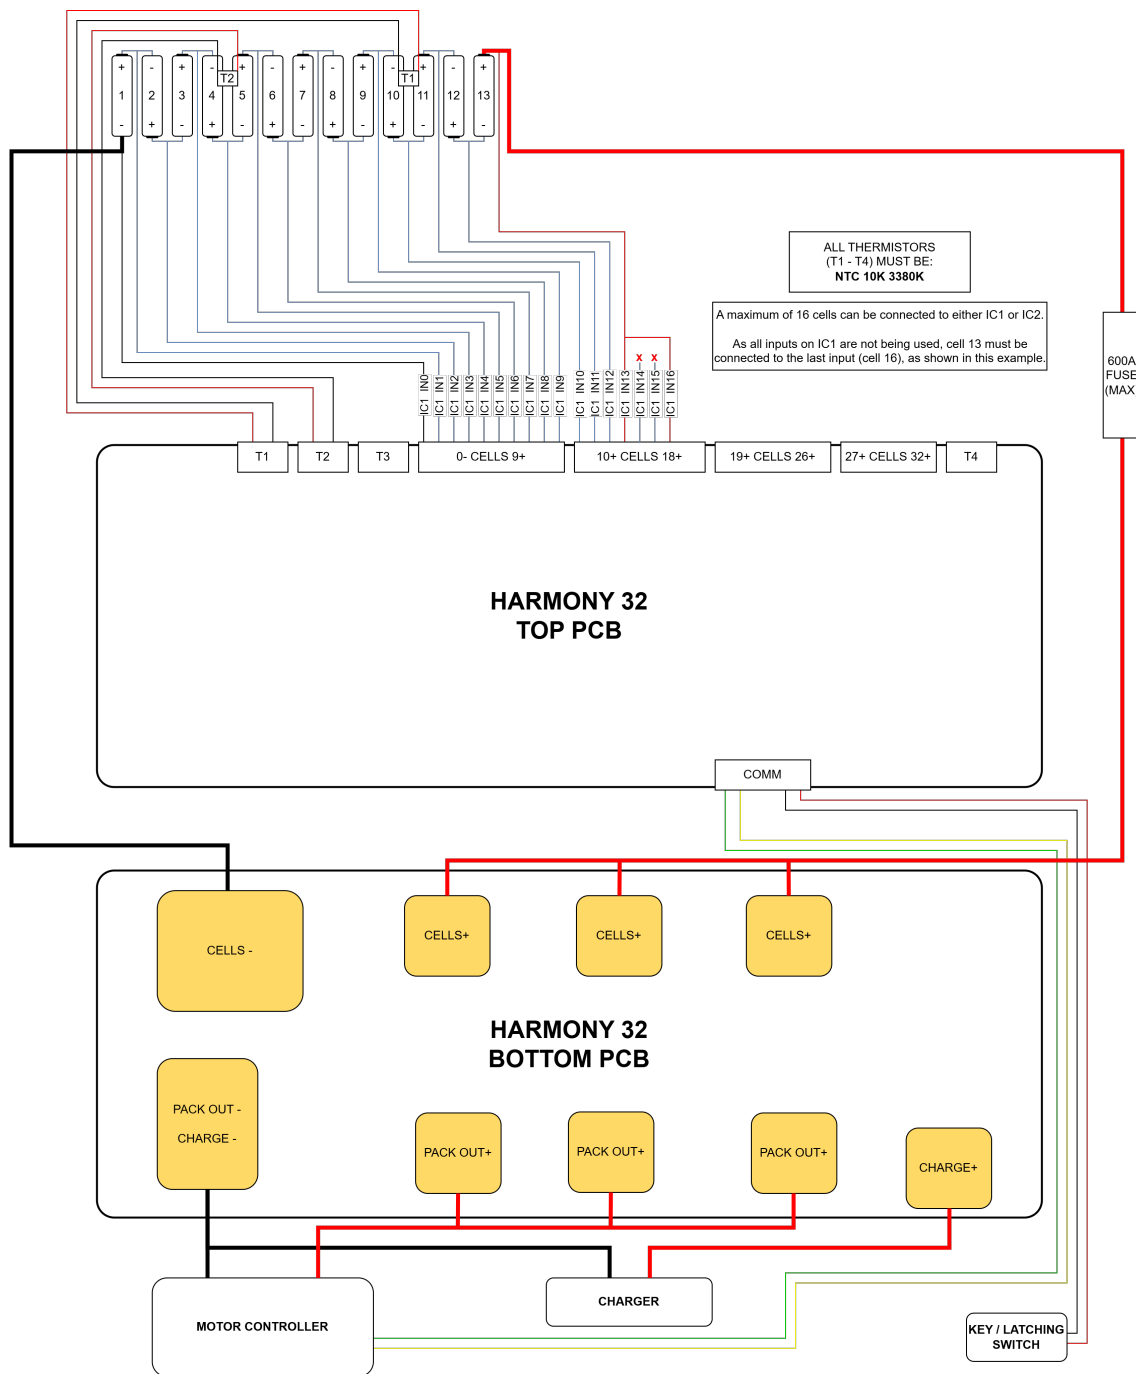

Figure 2: 13s Wiring Diagram
- If the number of cells is between 4 and 15, please refer to Figure 2.